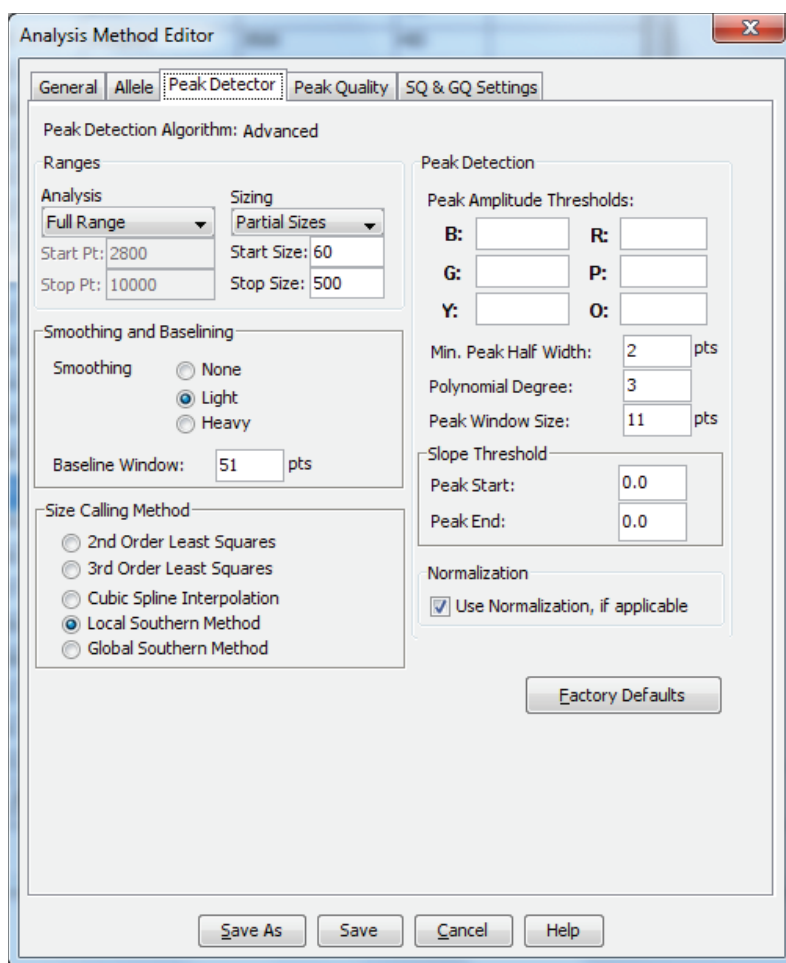

Figure 23. The GeneMapper® ID-X 'Peak Detector' tab.
10. Select the 'Peak Detector' tab (Figure 23). You will need to optimize these settings. In-house validation should be performed.
4. The peak window size shown in Figure 23 is not the default setting. It has been changed to 11 from the default value of 15. This ensures that the software can resolve alleles in the ladder that are 1 base apart for the larger loci such as D1S1656, D12S391 and D2S441.
8. Select the 'Peak Detector' tab (Figure 23). You will need to optimize these settings. In-house validation should be performed.